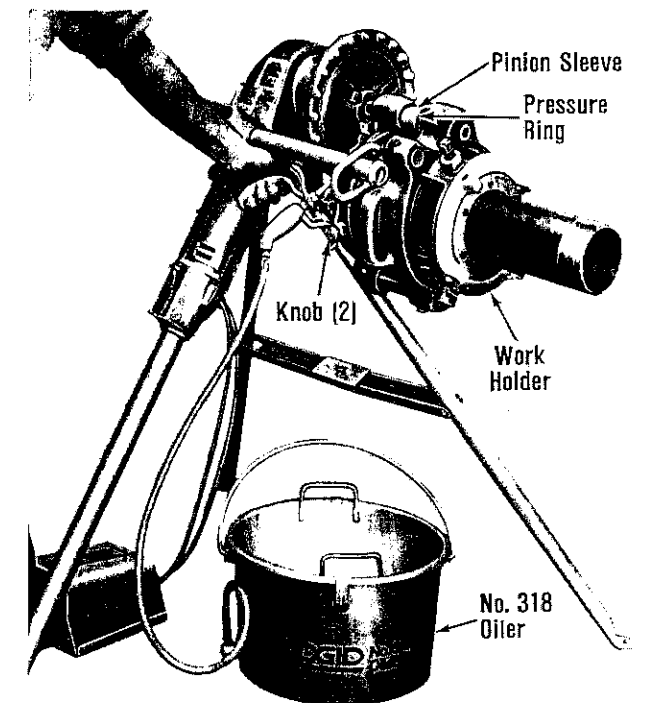

Figure 16. Threading Pipe with No. 141 Geared Threader (Close-Coupled Method) (No. 4PJ Threader Similar).
8. Position No. 318 Oiler directly under Threader (Fig. 16).
9. Support pieces (over 3 ft.) of pipe with No. 46 Pipe Support (Fig. 16). Position approximately 2½ feet from Threader.
5. Flood Dies (Fig. 16) with RIDGID Thread Cutting Oil during threading operation to assure long Die life.
141 - Step on Foot Switch and reverse Threader one or two revolutions. Pull knobs (Fig. 16) and rotate Cam Plate as far as it will go towards CD mark on Head to disengage Dies.